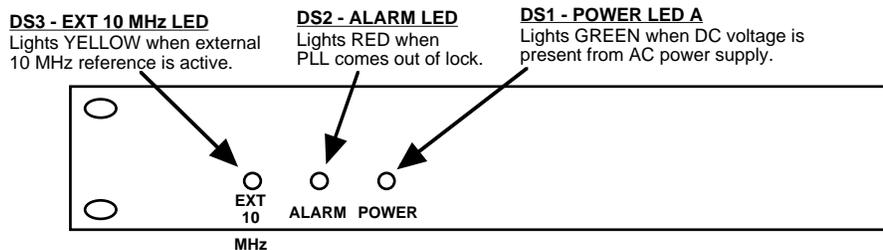

FIGURE 2.2 2116-72 Front Panel Controls and Indicators
- 4.) Be sure DS1 (green, DC Power) is on and DS2 (red, Alarm) is off (Figure 2.2).
- 6.) If EXT is selected or AUTO is selected and there is a 10 MHz, 0 dBm signal at J2, check that DS3 (yellow, Ext 10 MHz) is on (Figure 2.2).